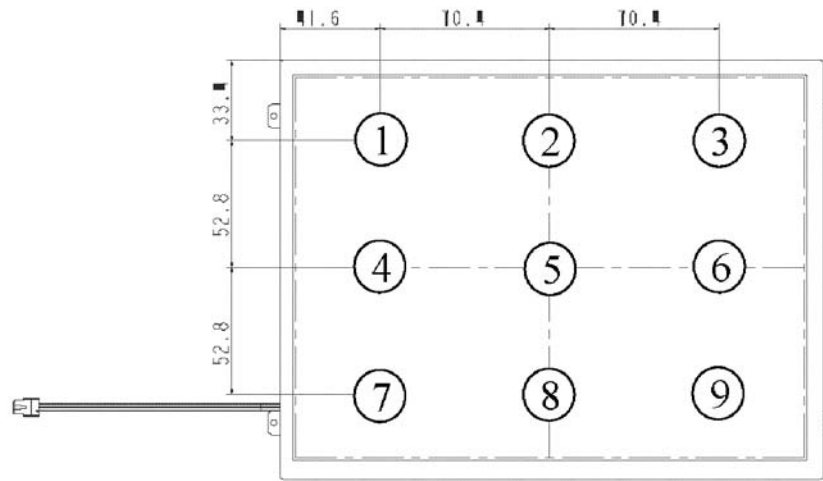

Fig 3-3 Measuring point
- 3) Definition of luminance : Measure white luminance on the point 5 as figure 3-3
Definition of Luminance Uniformity: Measure white luminance on the point1~9 as figure3-3